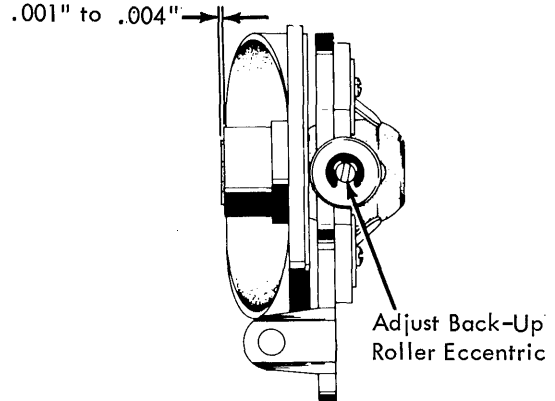

FIGURE 65. Shift Cam Back-Up Roller Adjustment
1. Shift Cam Back-Up Roller - Adjust the back-up roller eccentric left or right so that .001" to .004" of the cam bearing extends beyond the cam (Fig. 65). The eccentric should be kept in the bottom half of its orbit.